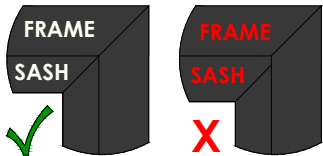

FIG. 6
- f. Check corners of the frame/sash at the lock side to make sure they are aligned on the lock side, adjust shims if necessary. **See FIG. 6**